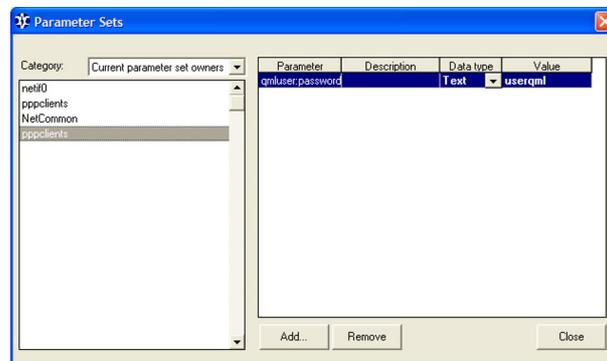

Figure 166 Parameter Set for Dial-In User Credentials
9. Add user credentials for dialing in to the QML logger by selecting **Parameter Sets** from the **Setup** menu. See Figure 166 on page 327.